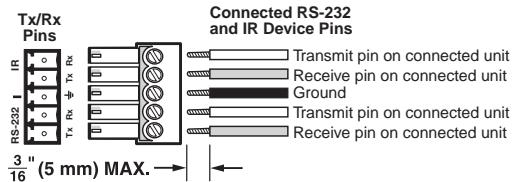

Figure 11. RS-232 Connector Wiring
- Power supply voltage polarity is critical. Incorrect voltage polarity can damage the power supply and the unit. The ridges on the side of the cord (see figure 11) identify the power cord negative lead.
Figure 11 shows how to wire the RS-232 connector.